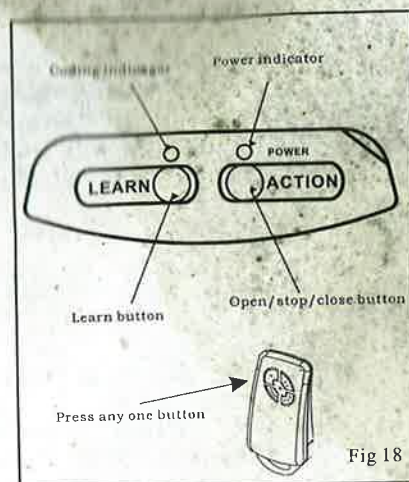

Fig 18
4.3.1 Close the door by pressing the Action button (see Fig 18).
5.1.1 Press the Learn button once and release it when the led above it illuminates (see Fig 18).